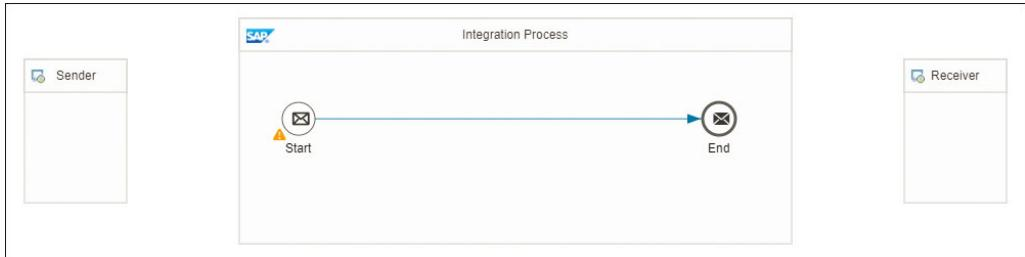

Figure 4.8 The Empty Integration Flow as a Starting Point for the Exercise
6. You've now created a package and an associated integration flow. Open the integration flow, which should look like the one depicted in Figure 4.8.